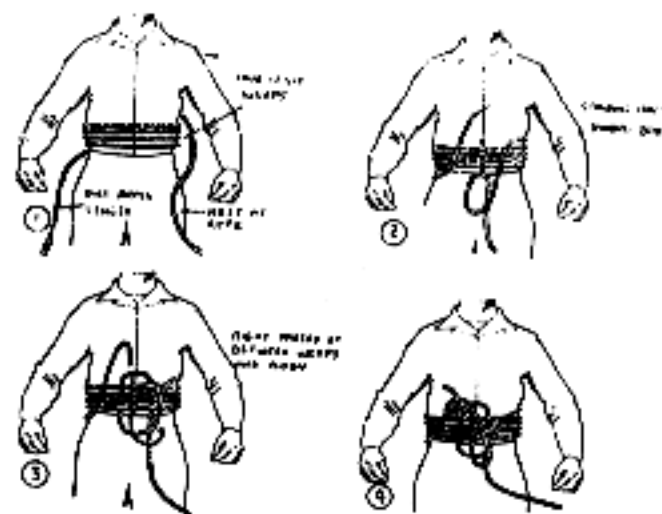

Figure 10-12. Bowline on a coil
(7) Bowline on a coil - Used by climbers in party climbing when harnesses are not available. Four to six parallel wraps around the body (above the hips and below the ribs). The top and bottom ropes cross forward of the hips. The loop must be under all wraps. The parallel wraps are visible through the bight. Half hitch on the top rope (figure 10-12).